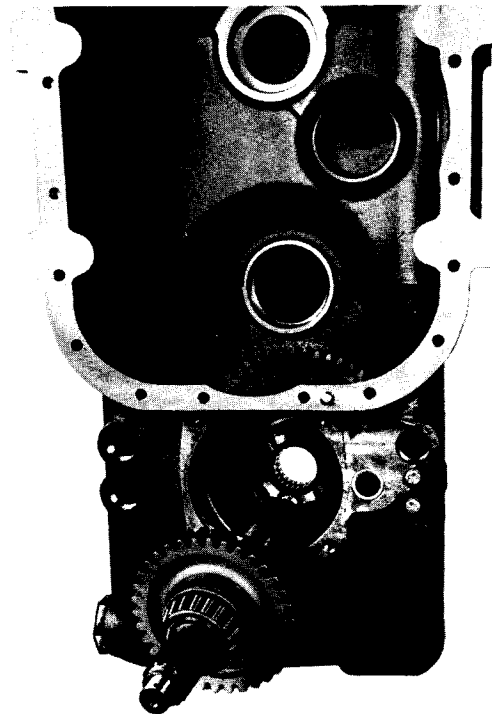

Fig. 13
5. Install low gear (61 teeth) and bearing assembly, in housing with clutching teeth on gear toward center of case. (See Fig. 13).